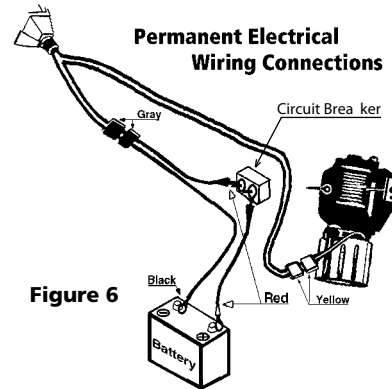

Figure 6
**Note:** The permanent battery cable connection should be installed prior to use of winch. Attach the circuit breaker directly to battery end of the permanent battery connection (RED) and then attached the RED wire from the circuit breaker directly to the battery positive terminal. Connect the Black coded wire from the permanent battery connection to the battery negative terminal. Wrap the Circuit Breaker with electrical tape to prevent short circuits. (See Figure 6).